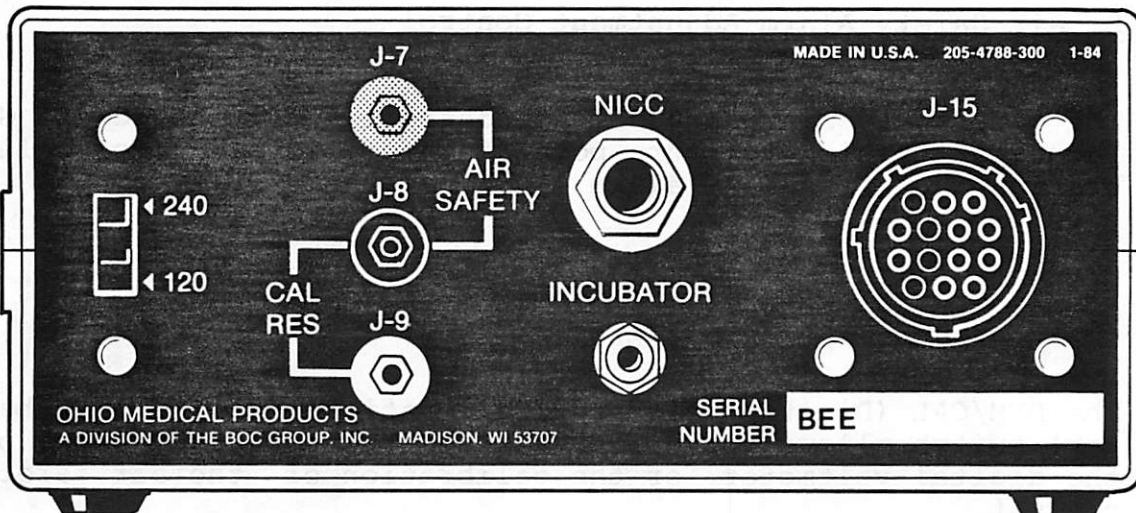

Figure 2.
2. Connect the round 14-pin connector (P15) on the test cable to J-15 at the rear of the temperature simulator as shown in Figure 2.